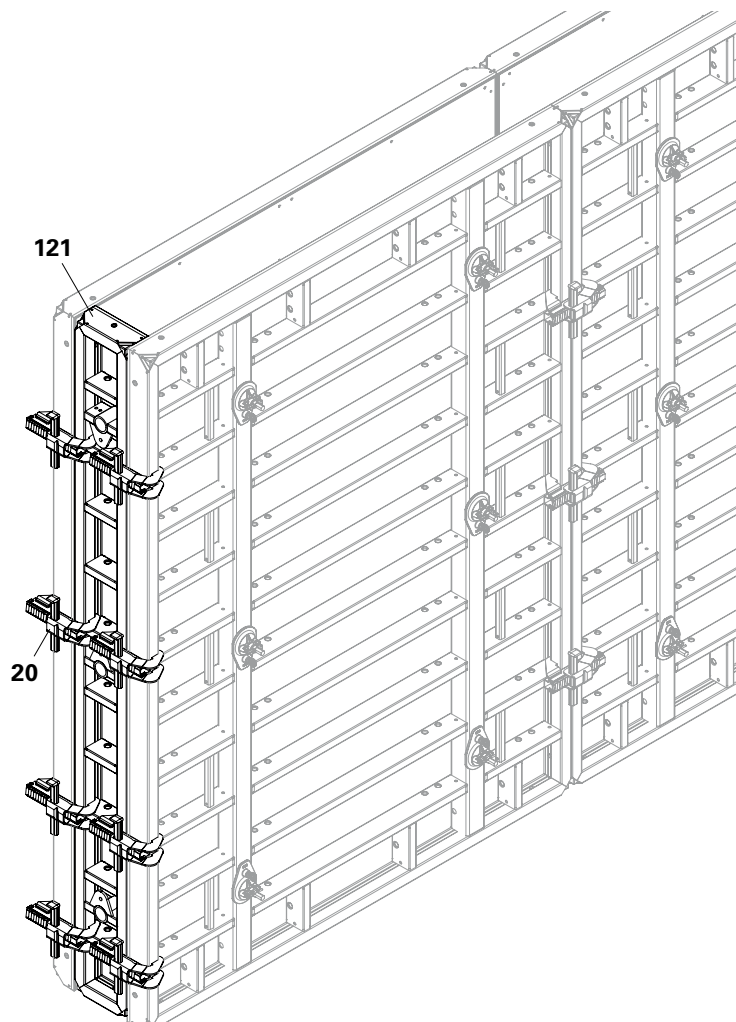

Fig. C10.06
Use Panel MX 330 x 30 (121) as a Stopend Panel for 30 cm wall thicknesses. (Fig. C10.06)